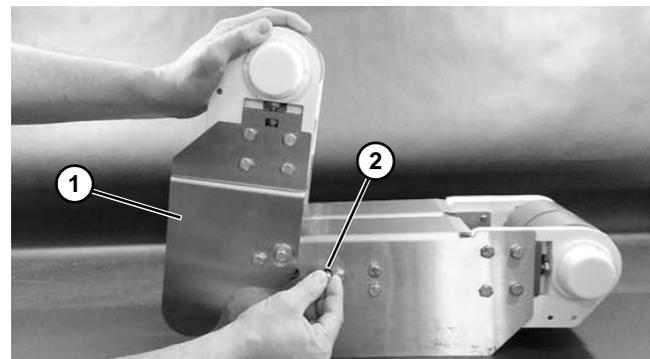

Figure 41
<p>To lower idler tail, push idler tail (Figure 41, item 1) to its maximum up position, and move locking lever (Figure 41, item 2) up to disengage lock. Lower tail slowly.</p>